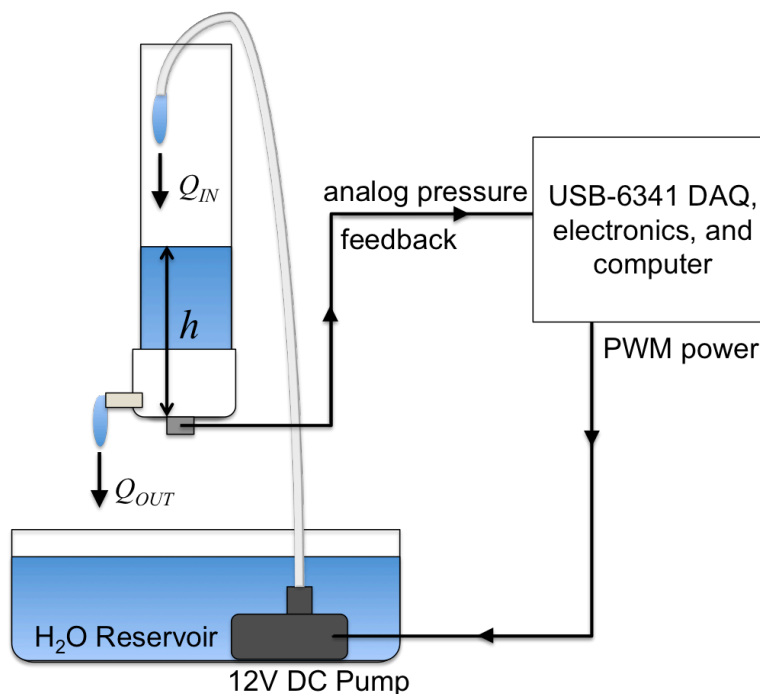

Figure 1 – Feedback from an analog pressure transducer is used to control the height in a flow-through water tank.
In this lab, you will implement several different methods to control the water level in a flow-through tank. Shown in Figure 1, the tank is continuously drained into a reservoir and replenished by a 12V DC submersible pump. The volumetric flow rate out of the tank Q_{OUT} is related to the hydrostatic pressure $p = \rho gh$ by Poiseuille's Law
5. Fill the bottom reservoir with distilled water from the special sink. Submerge the pump, and run the outlet tube from the top of the pump up and into the tank, as shown in Fig. 1.